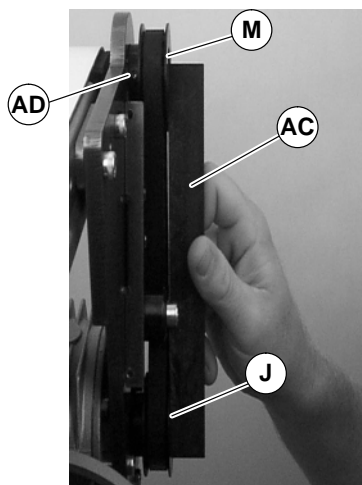

Figure 12
9. Wrap timing belt (O) around driven pulley (M) and drive pulley (J). Install driven pulley (M) onto conveyor shaft.
10. Using a straight edge (AC of Figure 12), align driven pulley (M) with drive pulley (J). Tighten driven pulley set screws (AD).